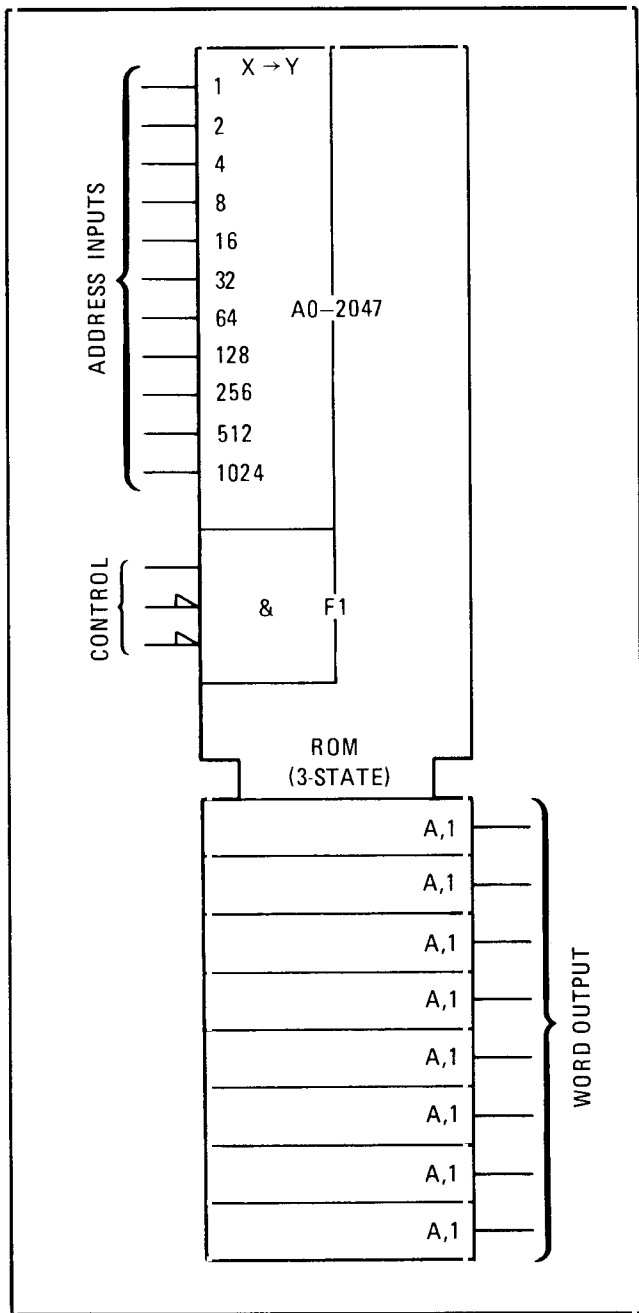

Figure 8-21. Read Only Memory
**Read Only Memory.** Refer to Figure 8-21. This device provides permanent storage for up to 2048 eight-bit words. Memory words are addressed by the address bus. When all control inputs are